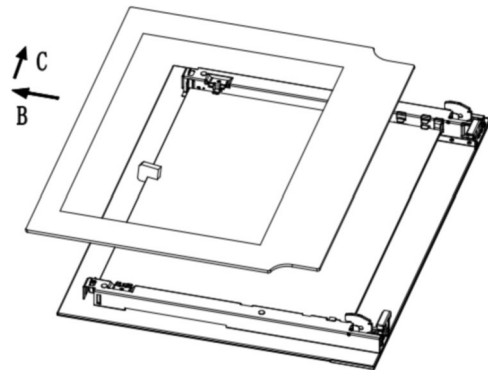

Fig. 4
2. Take out inner glass slowly (Fig.4)